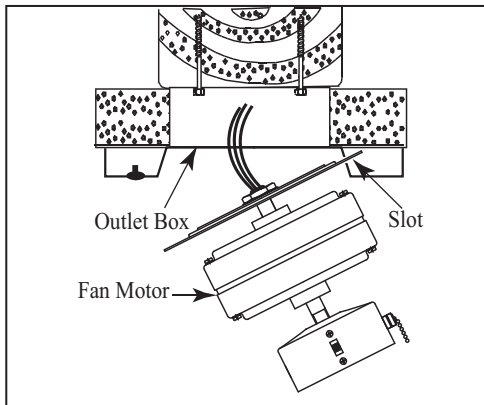

Figure 5
2. Carefully lift the fan motor assembly (without the blades) and insert the T section of the motor housing plate into the slot in the mounting bracket as shown in Fig. 5.